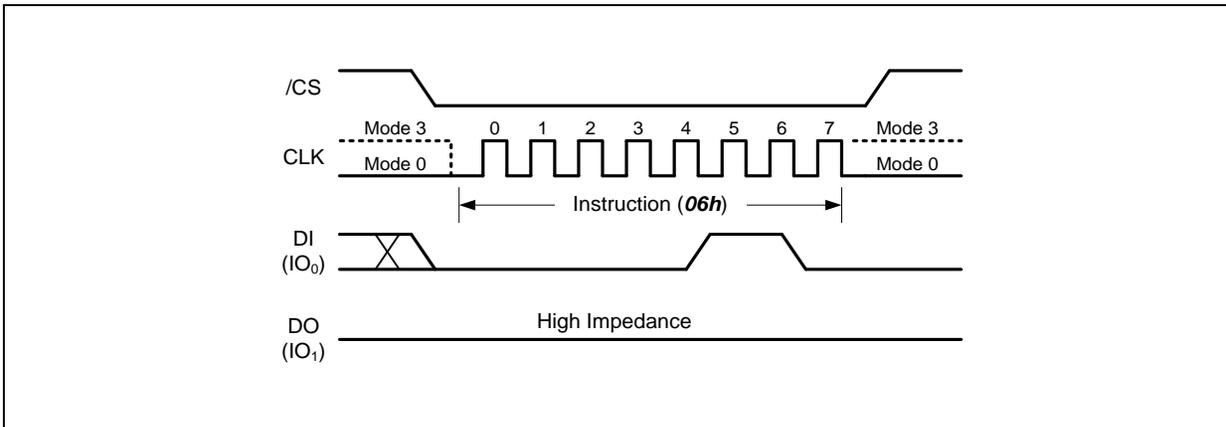

Figure 10. Write Enable Instruction
The Write Enable instruction (Figure 10) sets the Write Enable Latch (WEL) bit in the Status Register to a 1. The WEL bit must be set prior to every Page Program, Quad Page Program, Block Erase, Chip Erase and Bad Block Management instruction. The Write Enable instruction is entered by driving /CS low, shifting the instruction code “06h” into the Data Input (DI) pin on the rising edge of CLK, and then driving /CS high.